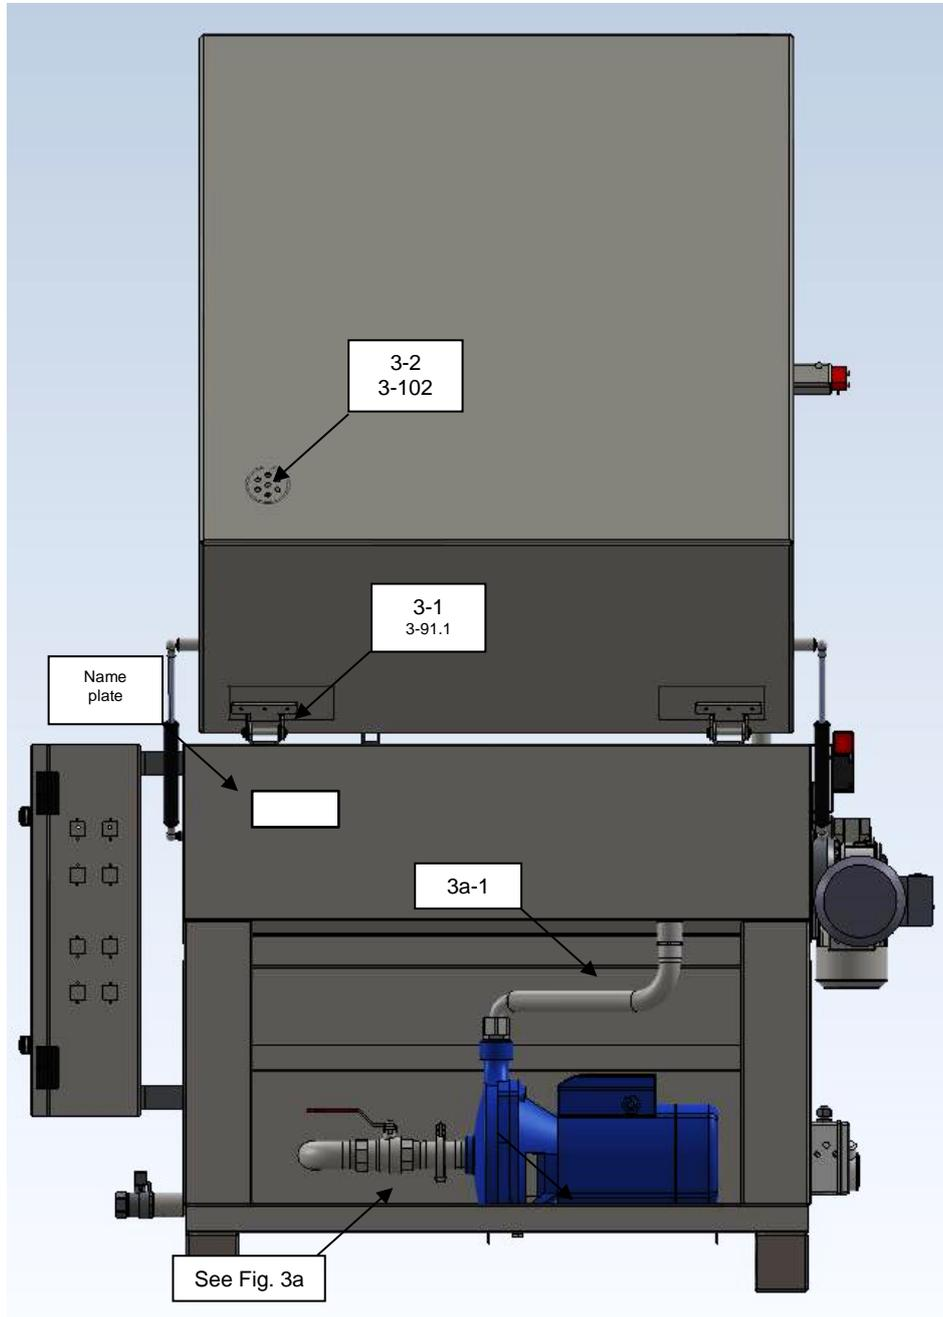

Fig. 3 Rear view of the machine
The lid is suspended on two hinges, see Fig. 3 (position 3-1) allowing its complete closure. Both of the hinges are secured with locking rings against being pulled out of the eyelets (pos. 3-92.1).
The wash liquid flows in two circuits, see in Fig. 3, 3a:
- perform an overall check for completeness and intactness of the machine parts described in Section 2 including manufacturer's identification label, see Fig. 3;